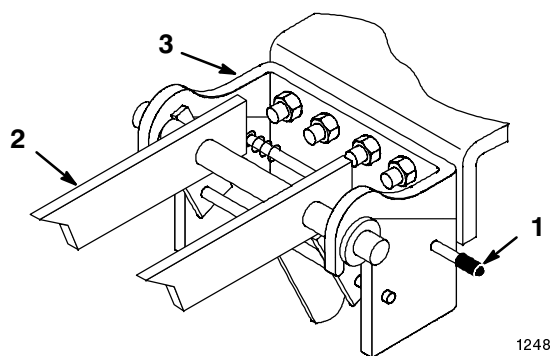

Figure 19
15. Open front hitch lock (Fig. 19) and remove snowthrower mounting frame from front hitch.